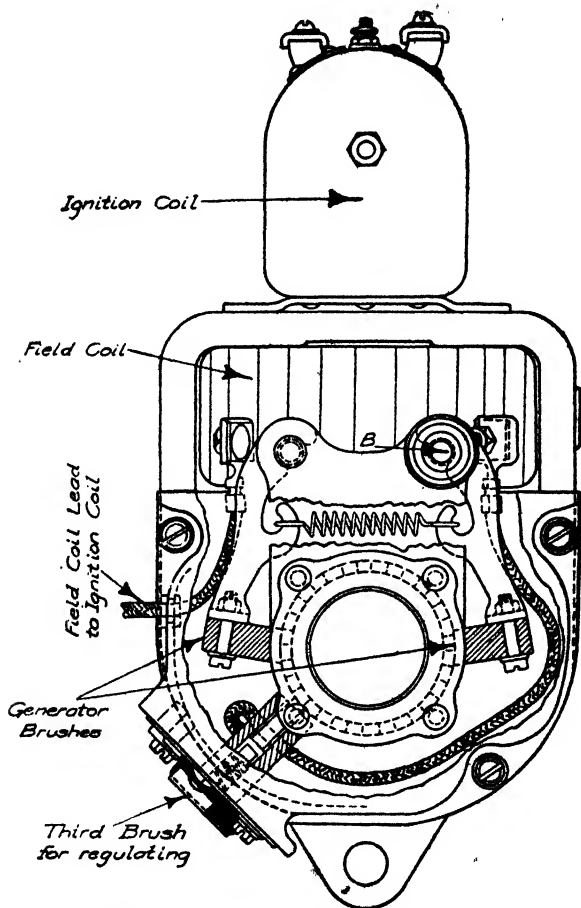

Fig. 147. Delco Third-Brush Method of Regulation
*Delco Third-brush Excitation.* Another form of inherent regulation consists of the use of a special brush for taking the current from the armature for the purpose of exciting the field. An instance of this is found in the Delco two-unit system as built for the Oakland cars (1916 models). As the generator is a bipolar type, there are only two brushes for leading the current from the armature to the external circuit, so that the special regulating brush employed, as illustrated in Fig. 147, is commonly referred to as a "third brush". This applies only to this particular type, however, for if the generator were a multipolar type having four brushes, the regulating brush would then be a *fifth* brush. The Delco generator is shunt wound but differs from the standard machine of that type in that the shunt winding is connected to the third brush which bears on the commutator between the other brushes. This method has the advantage of providing a strong shunt field at low speeds so that the generator commences charging while the car is still traveling at a very moder-